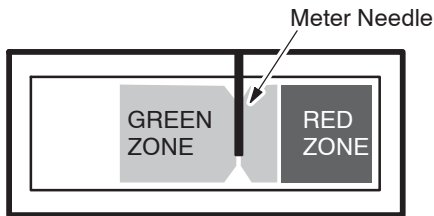

FIG. 12
4. Adjust pad pressure meter within Green Zone. Press the pad pressure switch to decrease or increase pressure. For best results adjust needle as shown (Figure 12).